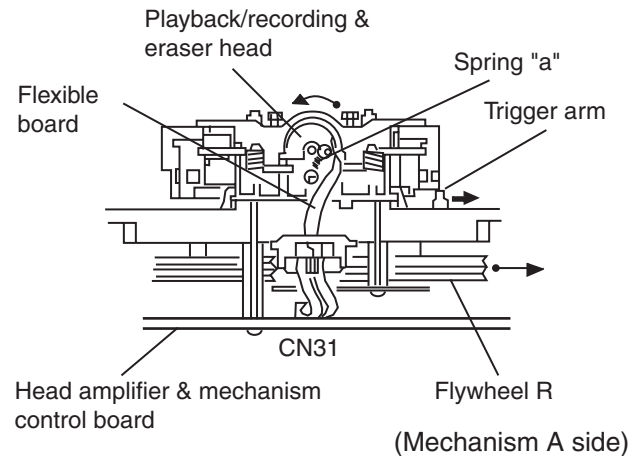
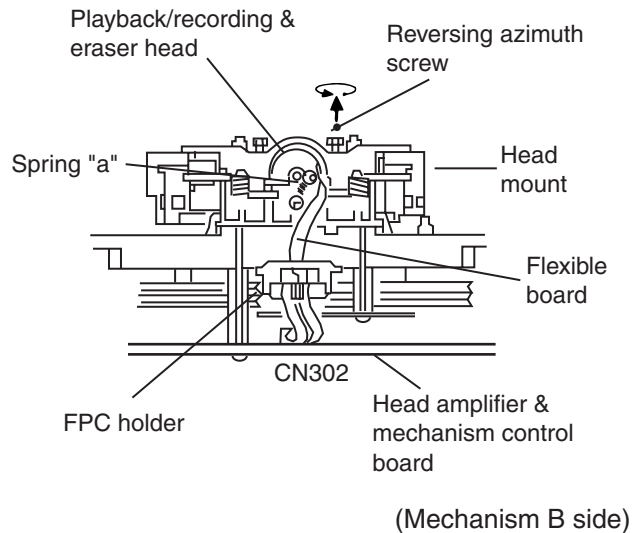

Fig. 2
Fig. 3
2. When the flywheel R is rotated in counterclockwise direction, the playback head will be turned in counterclockwise direction from the position in Fig. 2 to that in Fig. 3.
■ Reassembling the playback/recording and eraser heads (See Fig. 2 & 3)
1. Reassemble the playback head from the front of the head mount to the position as shown in Fig. 3.
4. Attach the flexible board to the chassis base, and fix it with the FPC holder as shown in Fig. 3.